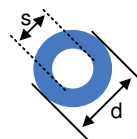

图 10-2. Thermal Pad Layout Recommendation
- The thermal pad should be tied to the PCB ground plane with a minimum of 25 vias. See Figure 10-2 for an example.